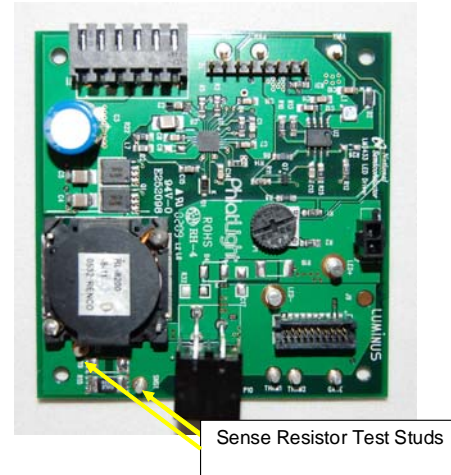
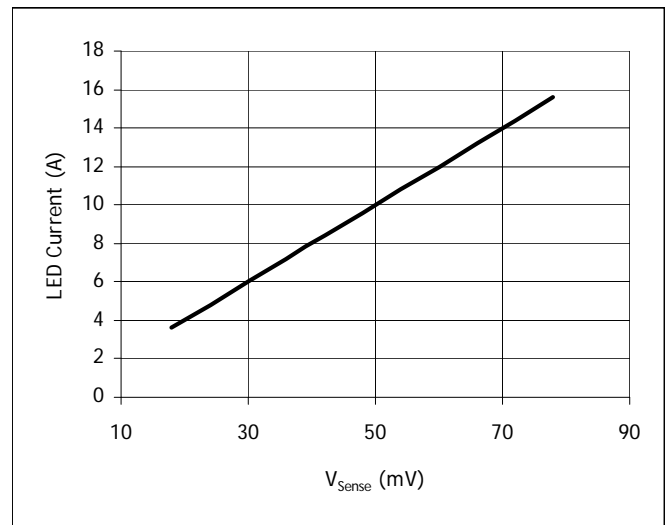

Figure 17: Sense resistor location on driver board
Figure 18: LED Current vs. Vsense voltage
3. To measure the current going to the LED, use a volt meter and measure the voltage across the sense resistor on the driver board. For ease of probing, two test studs have been placed to the left and right of “R15”. Figure 17 shows the location of the test studs on the driver board. Figure 18 shows a conversion plot between the sense resistor voltage and the current going to the LED. The current can also be calculated by the following formula: